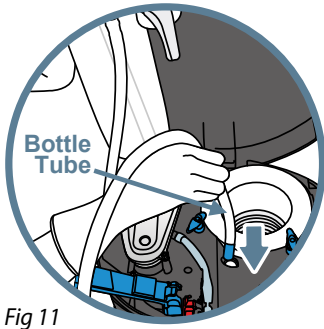

Fig 11
- Wearing gloves, feed the new bottle tube through the hole indicated (Fig 11).